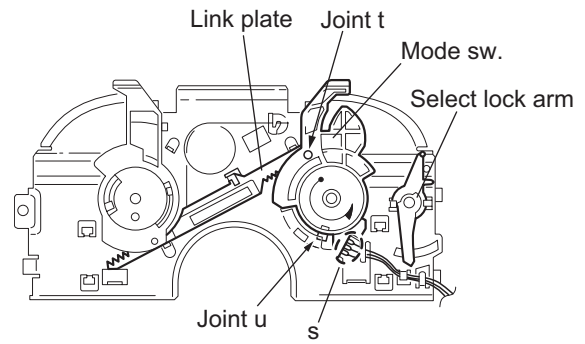

Fig.22
2.2.11 Removing the mode sw. / select lock arm (See Figs.22 and 23)